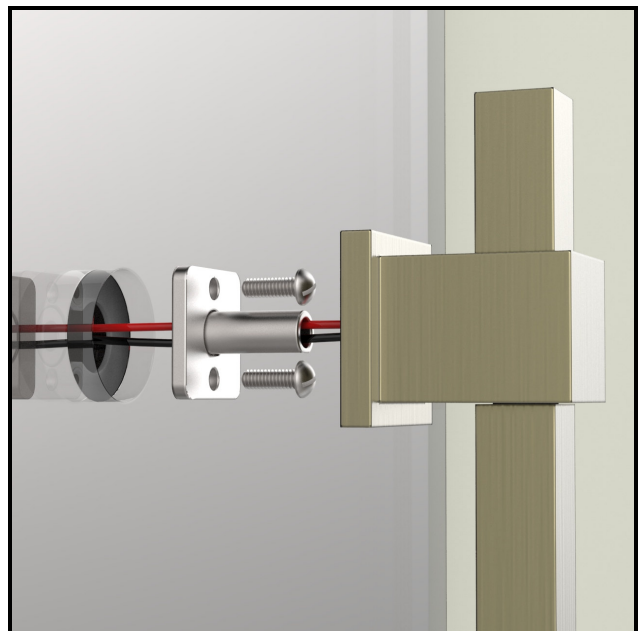

Figure 10
- On upper end (electrified end), install mounting post with included screws (Figure 10).